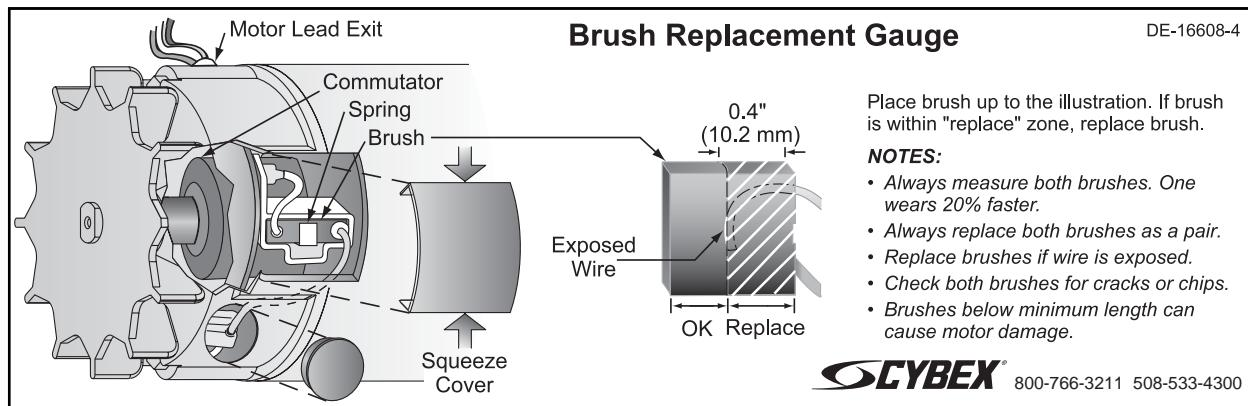

Figure 15
- Squeeze each of the two rectangular brush covers to remove it from the motor. See Figure 15.
- Lift off the round brush cover. See Figure 15. If necessary carefully pry the cover up using a flathead screwdriver.
B. Inspect the brushes for signs of excessive wear or cracks. The motor brushes must be replaced if one or both is worn to 0.4" (10.2 mm) or less in length, is broken or chipped, has a broken spring or binds in the motor. **NOTE:** For your convenience the decal shown in Figure 15 is under the motor hood cover.